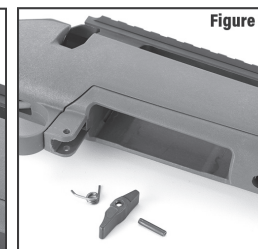

Figure 4
- b. Remove the magazine latch pin, magazine latch, and spring. (See Figure 4)